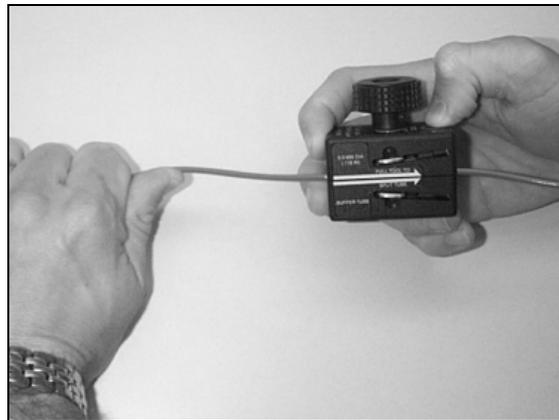

Figure 2 – Slit the buffer tube.
5.5 Pull the Quick Split tool along the tube as indicated by the tool label to the second buffer tube mark (Figure 2).